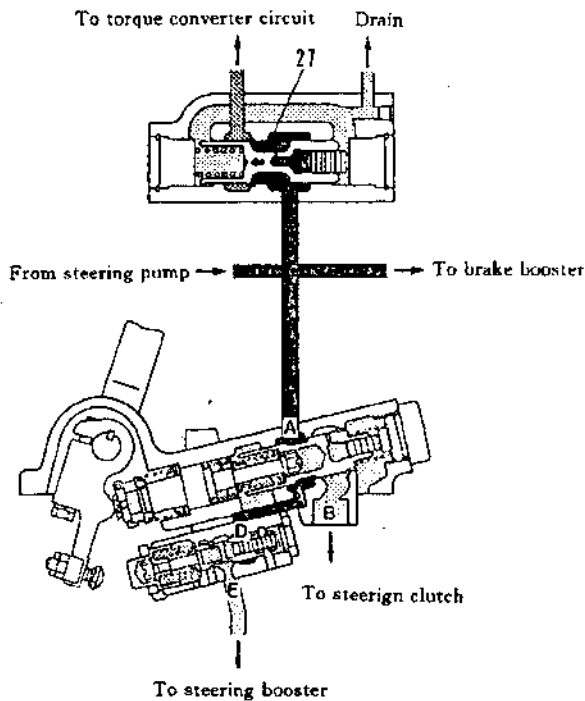

Fig. 2-71
(1) When the steering and brake valves are in neutral;
The oil from the steering pump enters main regulator valve(27) and port A and D of the steering control valve. Since the circuit to the steering clutch and brake booster are closed, the oil pressure in the circuit rises. As a result, main regulator valve(27) opens and the oil flows to the torque converter circuit. If the steering lever is not operated, the oil will continuously be relieved to keep the clutch applied and the brake released. The oil pressure in the circuit in this state is 2.16MPa(as shown in Fig. 2-71).